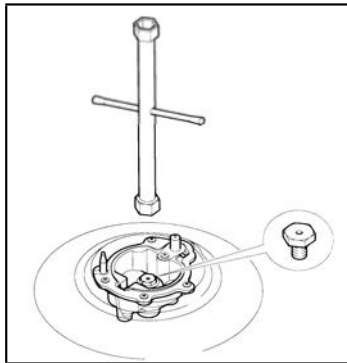

Fig. 8
- 4) Unscrew the nozzles using a 7 mm spanner, and replace them (Fig.8) with those needed for the new type of gas according to what is indicated in Table 1 for model MH and in Table 2 for model MX M9.